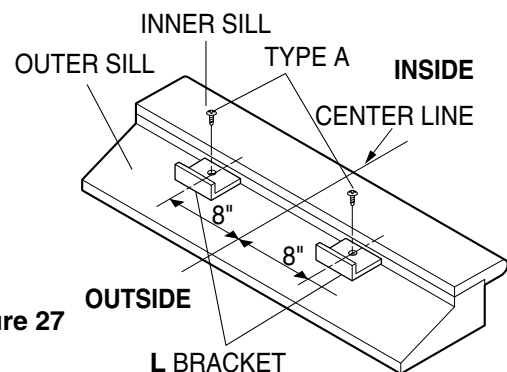

Figure 27
- b. The bracket helps to hold unit securely in place. Be sure to place bracket edge flush against back of inner sill. See Figure. 27.
- a. Carefully lift the air conditioner and slide it into the open window. Make sure the bottom guide of the air conditioner drops into the notches of the L bracket. See Figure. 27.